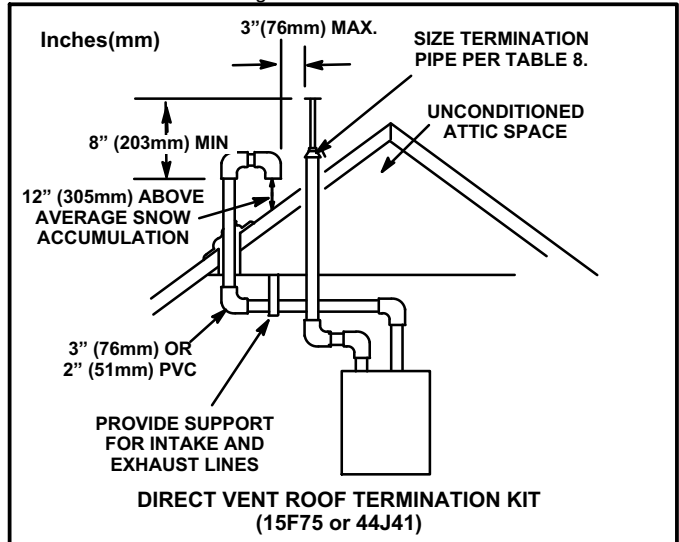

FIGURE 35
Intake and exhaust pipes may be routed either horizontally through an outside wall or vertically through the roof. In attic or closet installations, vertical termination through the roof is preferred. Figures 35 through 43 show typical terminations.
- 3 - On roof terminations, the intake piping should terminate straight down using two 90° elbows (See figure 35).